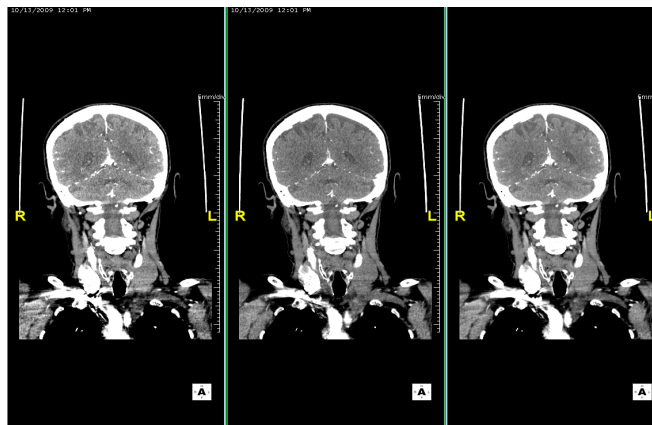

Figure 18-1 Three Series - 80KV, 140KV and Blended
The study is reloaded, displaying one image from each series: 80KV (left), 140KV (middle) and the blended series (right). (Figure 18-1)
- **Percentage Slider** — Drag the slider bar on the control panel to change the percentage of the third (Figure 18-1) image. This example is set to the monochromatic adjustment. Select the **Use Blender** box to turn this setting off.